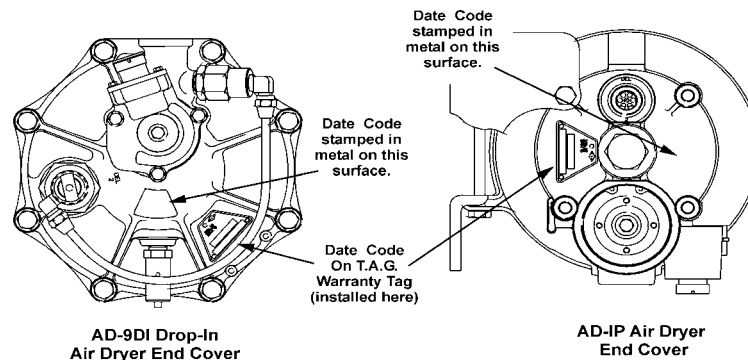

Figure 1 - Date Code Location
1. Check the date code on the air dryer (see figure 1). All AD-9DI (Drop-In) air dryers installed with Holset (Cummins) compressors manufactured between October 1, 1996 (K0196T or F) and October 31, 1997 (K3197T or F) should be upgraded using this program.
1. Check the date code on the air dryer (see figure 1). Air dryers with a date code older than L0197F (November 1, 1997) will have the old style purge valve and should be upgraded using this program.